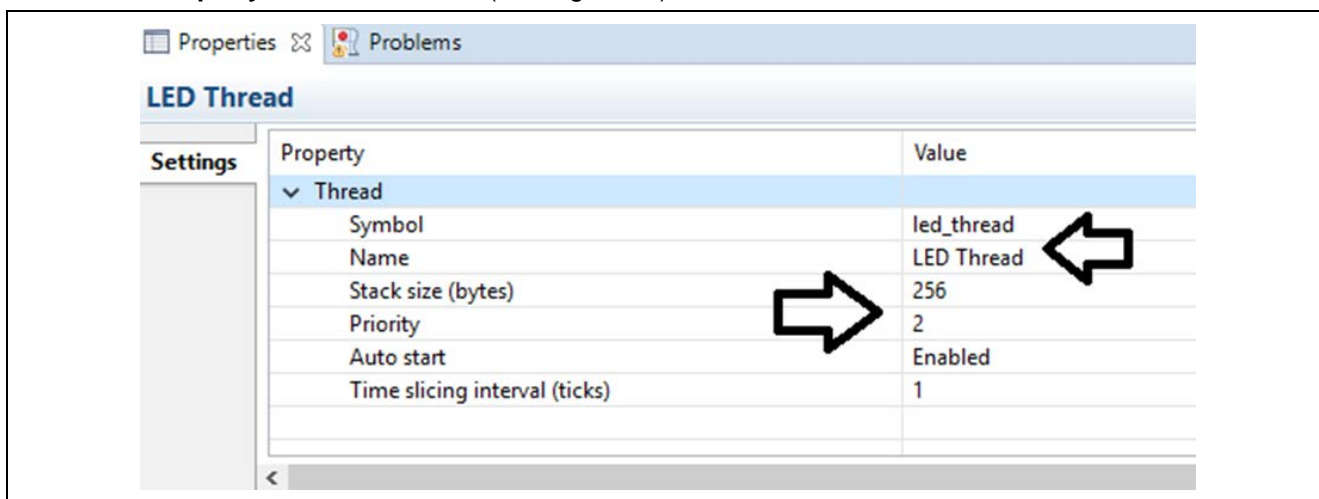

Figure 11. LED Thread Properties
- Set the **Property** of this new thread (see Figure 11).